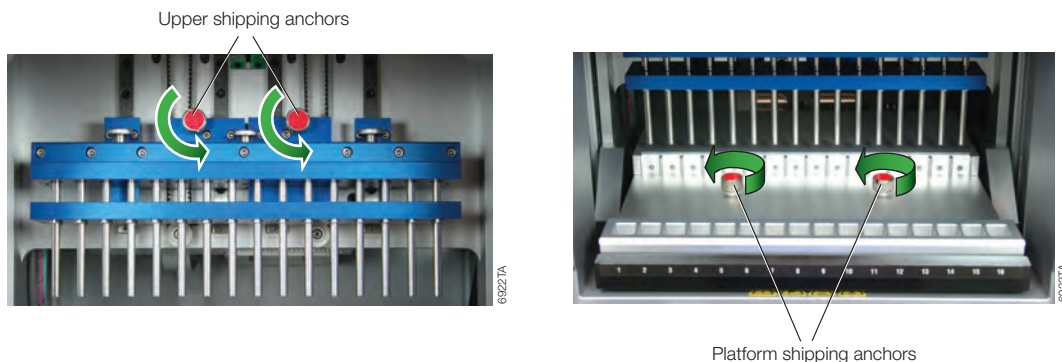

Figure 4. The upper (magnetic rod assembly/plunger bar) shipping anchors and the platform shipping anchors on the Maxwell® 16 Instrument.
4. Locate the Magnetic Rod Assembly/Plunger Bar shipping anchor thumbscrews labeled with red stickers (Figure 4). Unscrew and remove these shipping anchor thumbscrews.
5. Locate the Platform shipping anchor thumbscrews with the red stickers (Figure 4). Unscrew and remove the Platform shipping anchor thumbscrews.